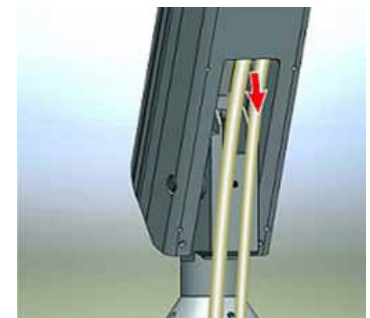

Figure 105
- Pull the extra length of cable and insert it through the outer cover of the vertical arm as shown in the Figure 104 & Figure 105 (First route the communication cable and then route the Inverter power cable).